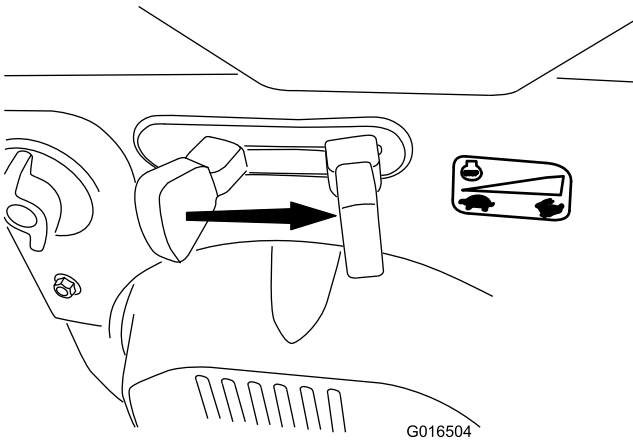

Figure 29
6. Move the throttle to the Fast position (Figure 29).